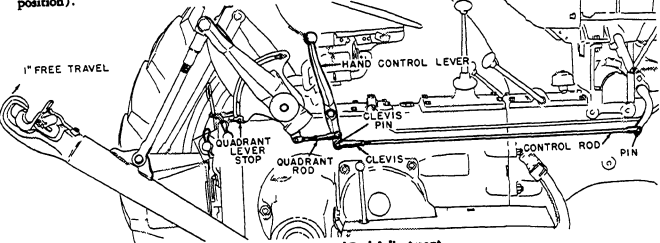

Fig. H-77 Control Rod Adjustment
- 3 Adjust the clevis at the lever end of the rod until the pins can be installed at both ends of the rod without moving either the hand control lever or the crank for the control assembly Fig. H-77.
5. While the draft arms are still in full raised position, grasp the Eagle claws and pull upward. There should be approximately one inch free travel at the claws before the rockshaft rocker arm strikes the stop on the housing. Fig. H-77.